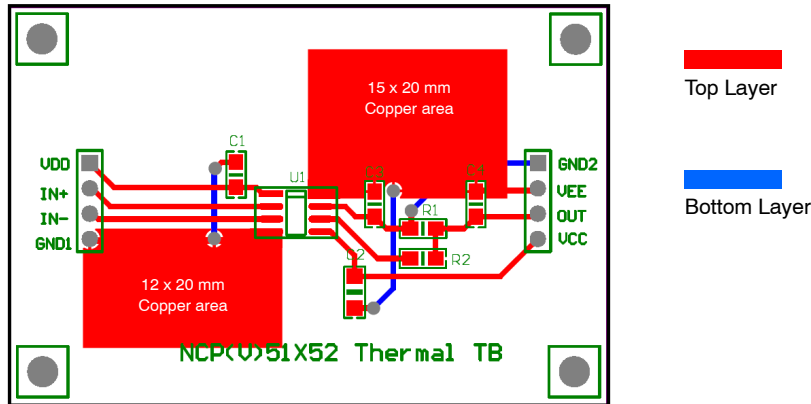

Figure 4. Reference Layout for the Type–A
7. As specified for a reference layout shown in Figure 4. The DUT is mounted on a 60 x 40 x 1.6 mm FR4 substrate with an additional heat spreading copper of 240 mm²/300 mm² (Primary/Secondary). The copper thickness is 1 oz and test conditions is under natural convection or zero air flow.